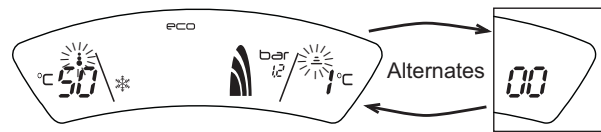

fig. 31
3. The heating power will be displayed 100% - denoted by flashing '1' then '00' continuously on the LCD display (see fig. 31)